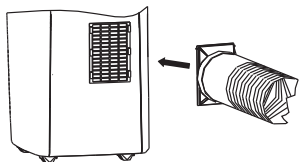

Fig. 9
- Keep the required distance from the return air outlet (refer to Fig. 9 on Page 13 ) to the wall or other obstacles at least 60 cm (23.6"). Fix one end of the air hose (A) on the air outlet underside the appliance. (§ how to install the Exhaust Hose and Adapter
- Air outlet (refer to Fig. 9 on Page 13 ) or intake ( see below ) can not be blocked by protective grid or any obstacle.